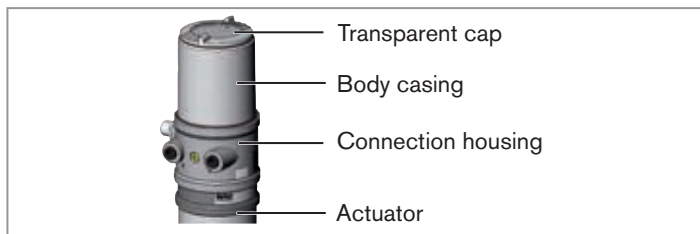

Fig. 19: Open control head
- ▶ When unscrewing and screwing in the transparent cap, do not hold the actuator of the process valve but the connection housing (see "Fig. 19: Open control head").